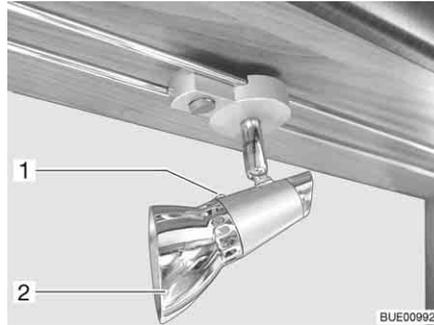

Fig. 223 Halogen spotlight (movable)
- Loosen the fixing screw (Fig. 223,1).
- Remove the lamp shade (Fig. 223,2).